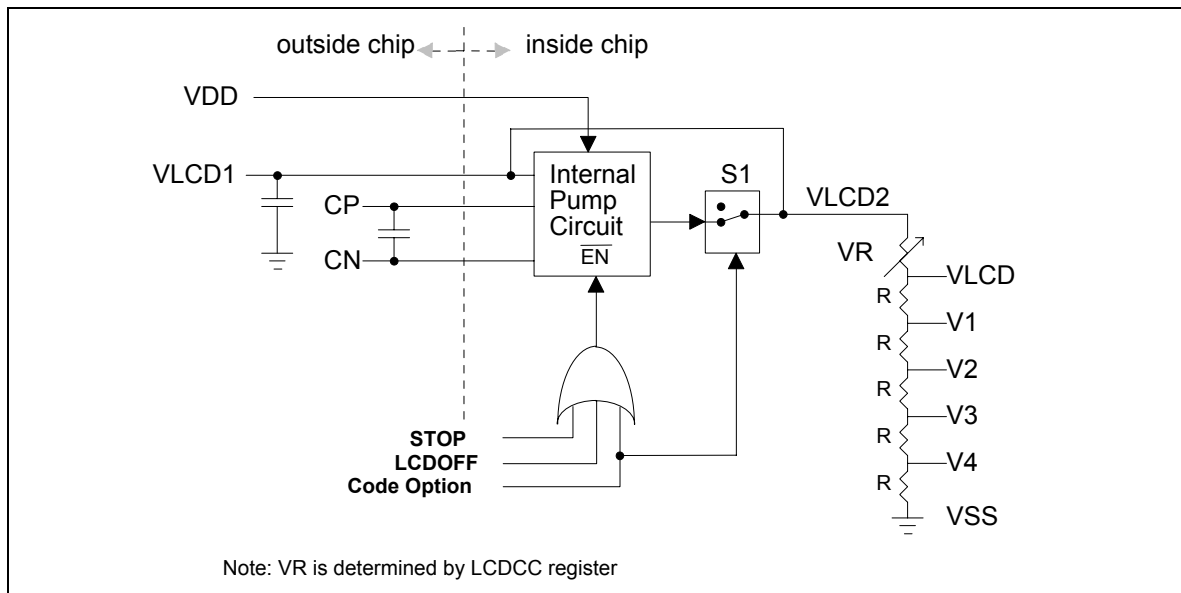

Figure 5-18 LCD power control circuit
LCD power (VLCD2) has two source, one is directly from the VLCD1 pin, another is from internal pump circuit. The LCD power source is selected by mask option. The pump circuit doubles the μ C input voltage (VDD), **the power consumption in internal pump mode is more than directly input from VLCD1**. The LCD pump circuit only works in the VDD range from 2.4V to 4.0V. If the operating voltage of VDD is up 4.0V, the LCD power should come from the VLCD1 pin. The LCD contrast is adjustable by an internal variable resistor (VR). VLCD voltage is controlled by setting bit2, bit1 and bit0 of LCD contrast control register (LCDCC). LCDCC is determined by executing MOV **LCDCC,#i**. The Figure 5-18 shows the LDC power control as below: